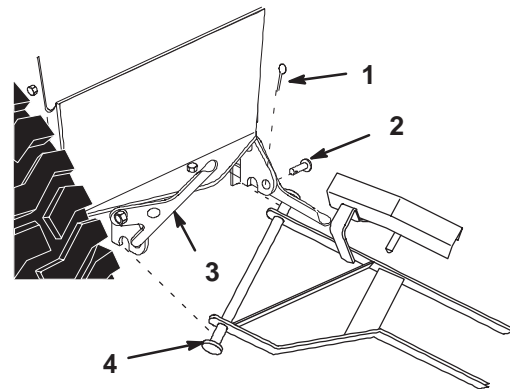

Figure 22
9. Remove hairpin cotters and clevis pins from latch levers (Fig. 22). Open latch levers and remove mounting rod.